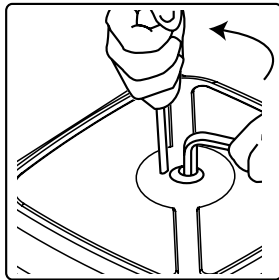

fig. 4f
7. Connect a new hose to the drum, inserting it through the rollers support (fig 4f and 5f). Mount the hose stop at the desired distance from the end.